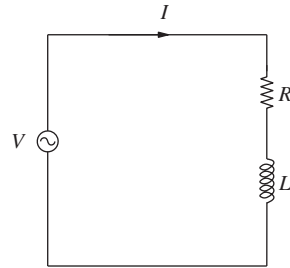

Figure P5.26 An RL circuit for problem P5-25.
- 5-26.** In the RL circuit shown in Fig. P5.26, the impedances of R and L are given as $Z_R = R \Omega$ and $Z_C = jX_L \Omega$, where $j = \sqrt{-1}$. Suppose $R = 100 \Omega$ and $X_L = 50 \Omega$.
- Show that the KVL is satisfied for the circuit shown in Fig. P5.26; in other words, show $V = V_R + V_L$.